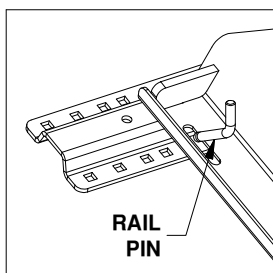

Figure B2: View of base leg.
- Insert pins.** Locate the four rail pins and hairpins. Insert each pin into the long slots in the base and through the rails. Lock each pin into place with a hairpin, see Figures B2 and B3.